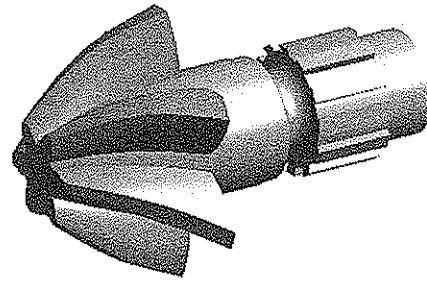

Figure 5-92 Loft feature created using the modified guide line
17. Next, choose the **Generate** tool in the **Features** toolbar; the changes are applied and the loft feature created, as shown in Figure 5-92.